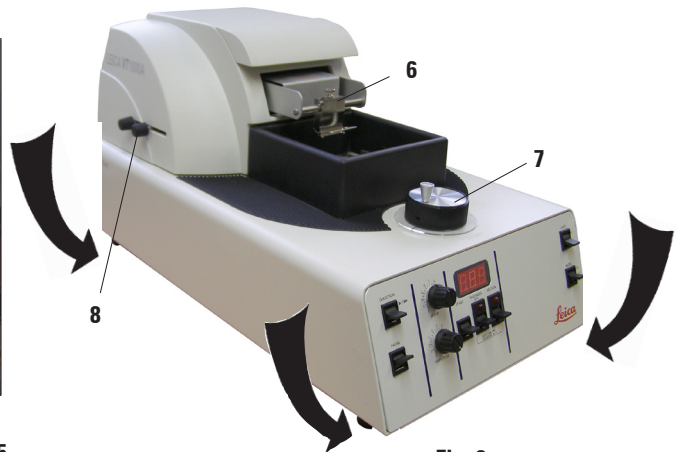

Fig. 6
1. Remove the lid (1) of the transport crate by unscrewing the 4 Phillips head screws (2).
2. Take out the accessory box (3) and remove the white packing material (5).
4. To lift the instrument from the box, hold it on the left and right of the housing (Fig. 6), lift it out of the foam cushion of the package and place it on a stable lab table.